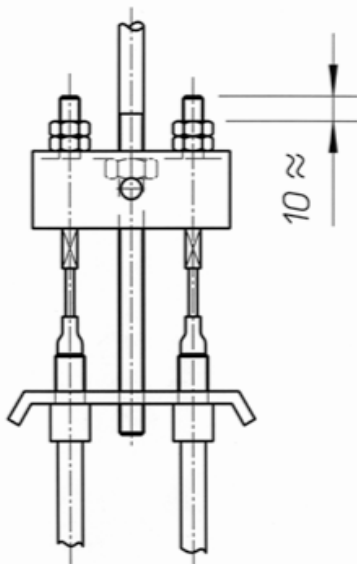

Figure 4.4: Cross bar fitting
- ❶ After fitting the wheels on the axle, turn the wheels in the FORWARD direction (on all RA 2 type brakes, check that the adjustment screw 8 reaches the "FORWARD" stop on the brake backing plate).
- ❷ Adjust the brake setting using screw 8, with the cables not connected to the cross bar(s). The shoes should rub the drum slightly.
- ❸ Connect the brake cables to the cross bars(s) and tighten the nuts and lock nuts, leaving the end of the threaded end protruding by around 10 mm (Fig. 4.4).